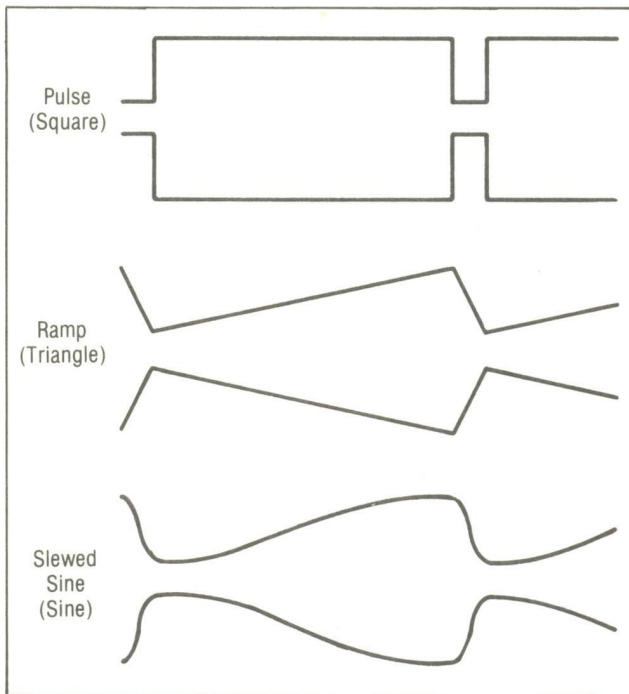

Fig. 5. Effects of symmetry variation.
In a symmetrical square, sine, or triangle wave, the positive and negative transitions are of equal duration, or 1:1 ratio. This is the condition when the VAR SYM (variable symmetry) control (15) is set to the VAR OFF position. When this control is rotated, the ratio of positive duration to negative duration is varied from 19:1 to 1:19. Square waves can be stretched into rectangular waves or pulses, triangle waves can be stretched into ramp or sawtooth waves, and sine waves can be stretched into a distorted waveshape called a slewed sine wave. Fig. 5 illustrates the effects of symmetry variation. In each case, the upper waveshape of the two shows the output for nearly full counterclockwise rotation of the VAR SYM control. The lower indicates the effects of nearly full clockwise rotation.